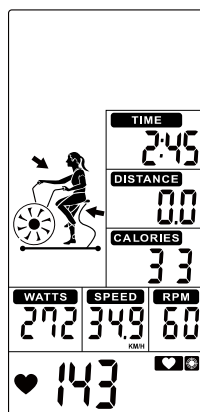

Figure 49
- ⑥ When Heart Rate goes between 65% ~ 85%, only HEART RATE will flash (Figure 49).
- ⑦ No signal input for 30s, buzzer sounds 1 short beep and enter to Wake-up mode.
- ⑧ Press START button once enter into PAUSE mode, Buzzer will sound for 0.5s per second within 30s. All values are displaying on LCD and flashing in every 2s. If continue to stop training for 5 minutes, buzzer sounds 2s and enter to Wake-up mode. Press START to resume workout.